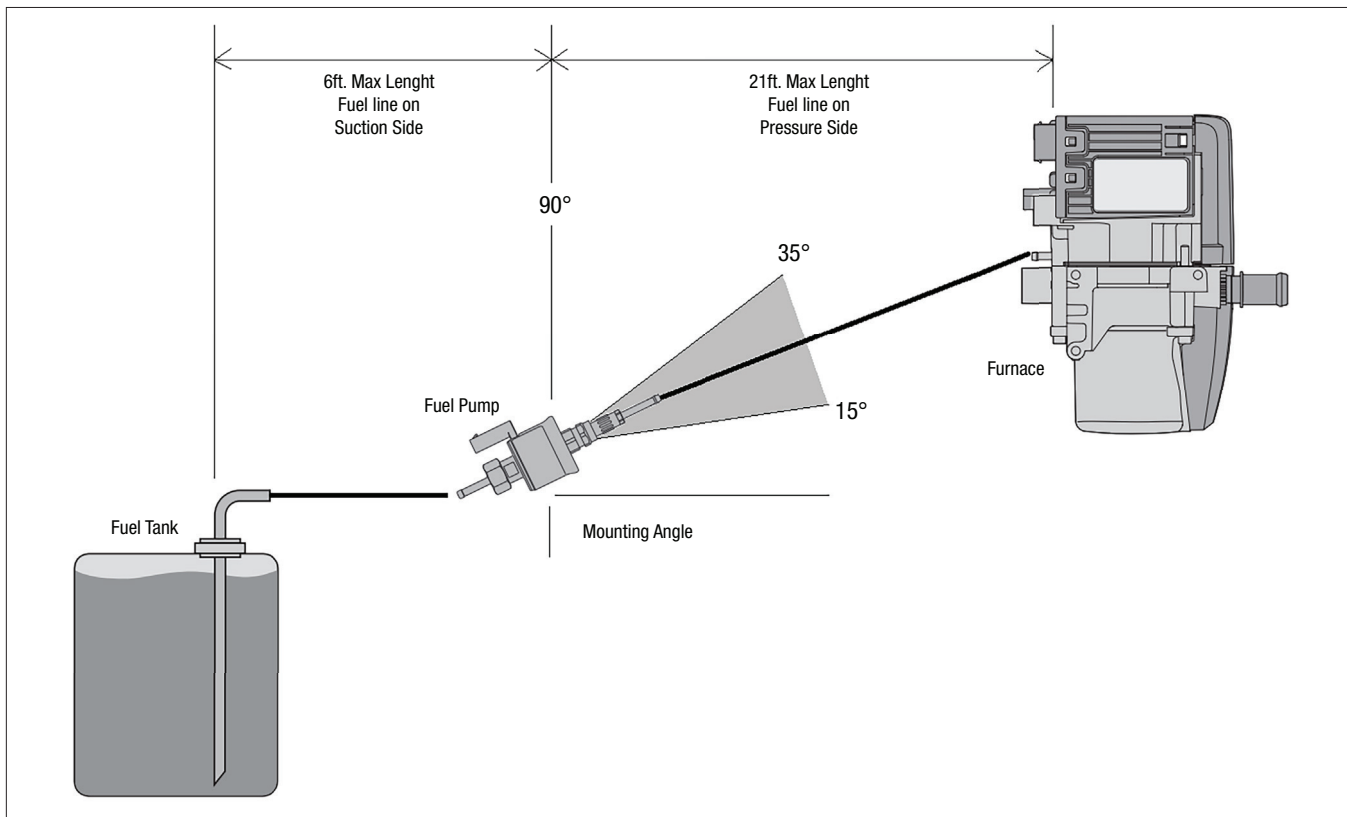

Figure 4
- Preferred installation position within the range 15° - 35° as shown below in Figure 4.